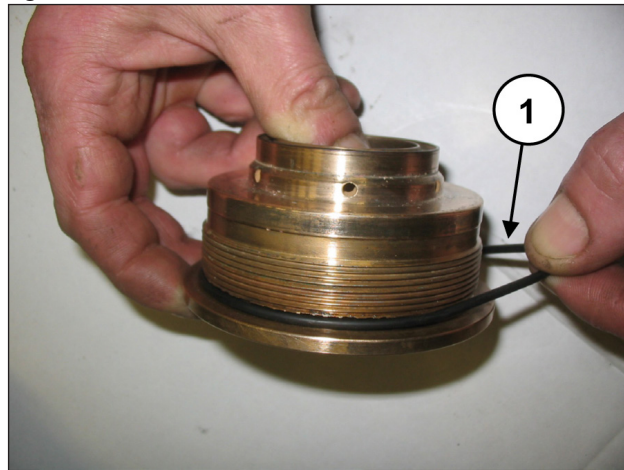

Fig. 153
Place the O-ring for the gasket support in its seat (pos. ①, Fig. 153).